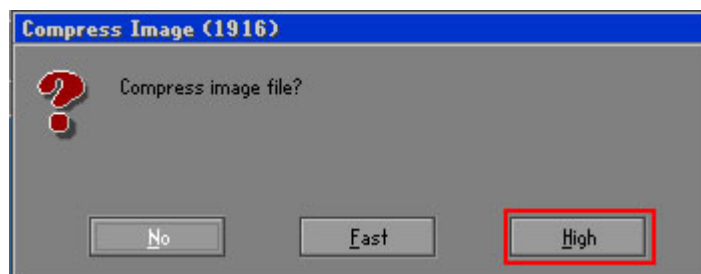

Figure C-17: Compress Image
Step 8: When the Compress Image screen in **Figure C-17** prompts, click **High** to make the image file smaller.